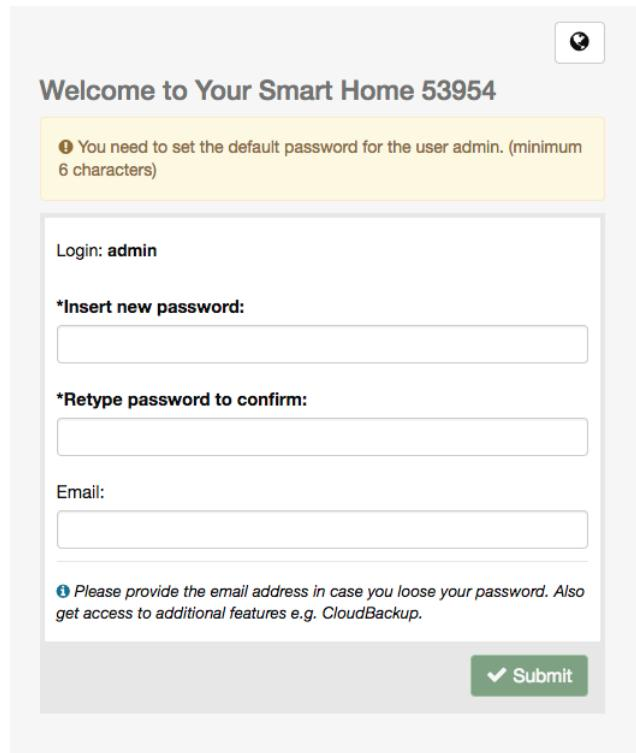

Figure 3.8: Initial setup of the Z-Way User Interface
Both the local access and the remote access using the find-service have their pros and cons as listed in Table 3.1: The initial access to the user interface must be done using one of the local access routes. Once Z-Way is running, the first access to the interface asks for some basic setup such as the admin password and an email address to recover this password. Figure 3.8 shows this screen. The number provided in the title (1) is the unique **Z-Way Platform ID** of the device and it will be needed in the future to access the controller remotely using the find service.